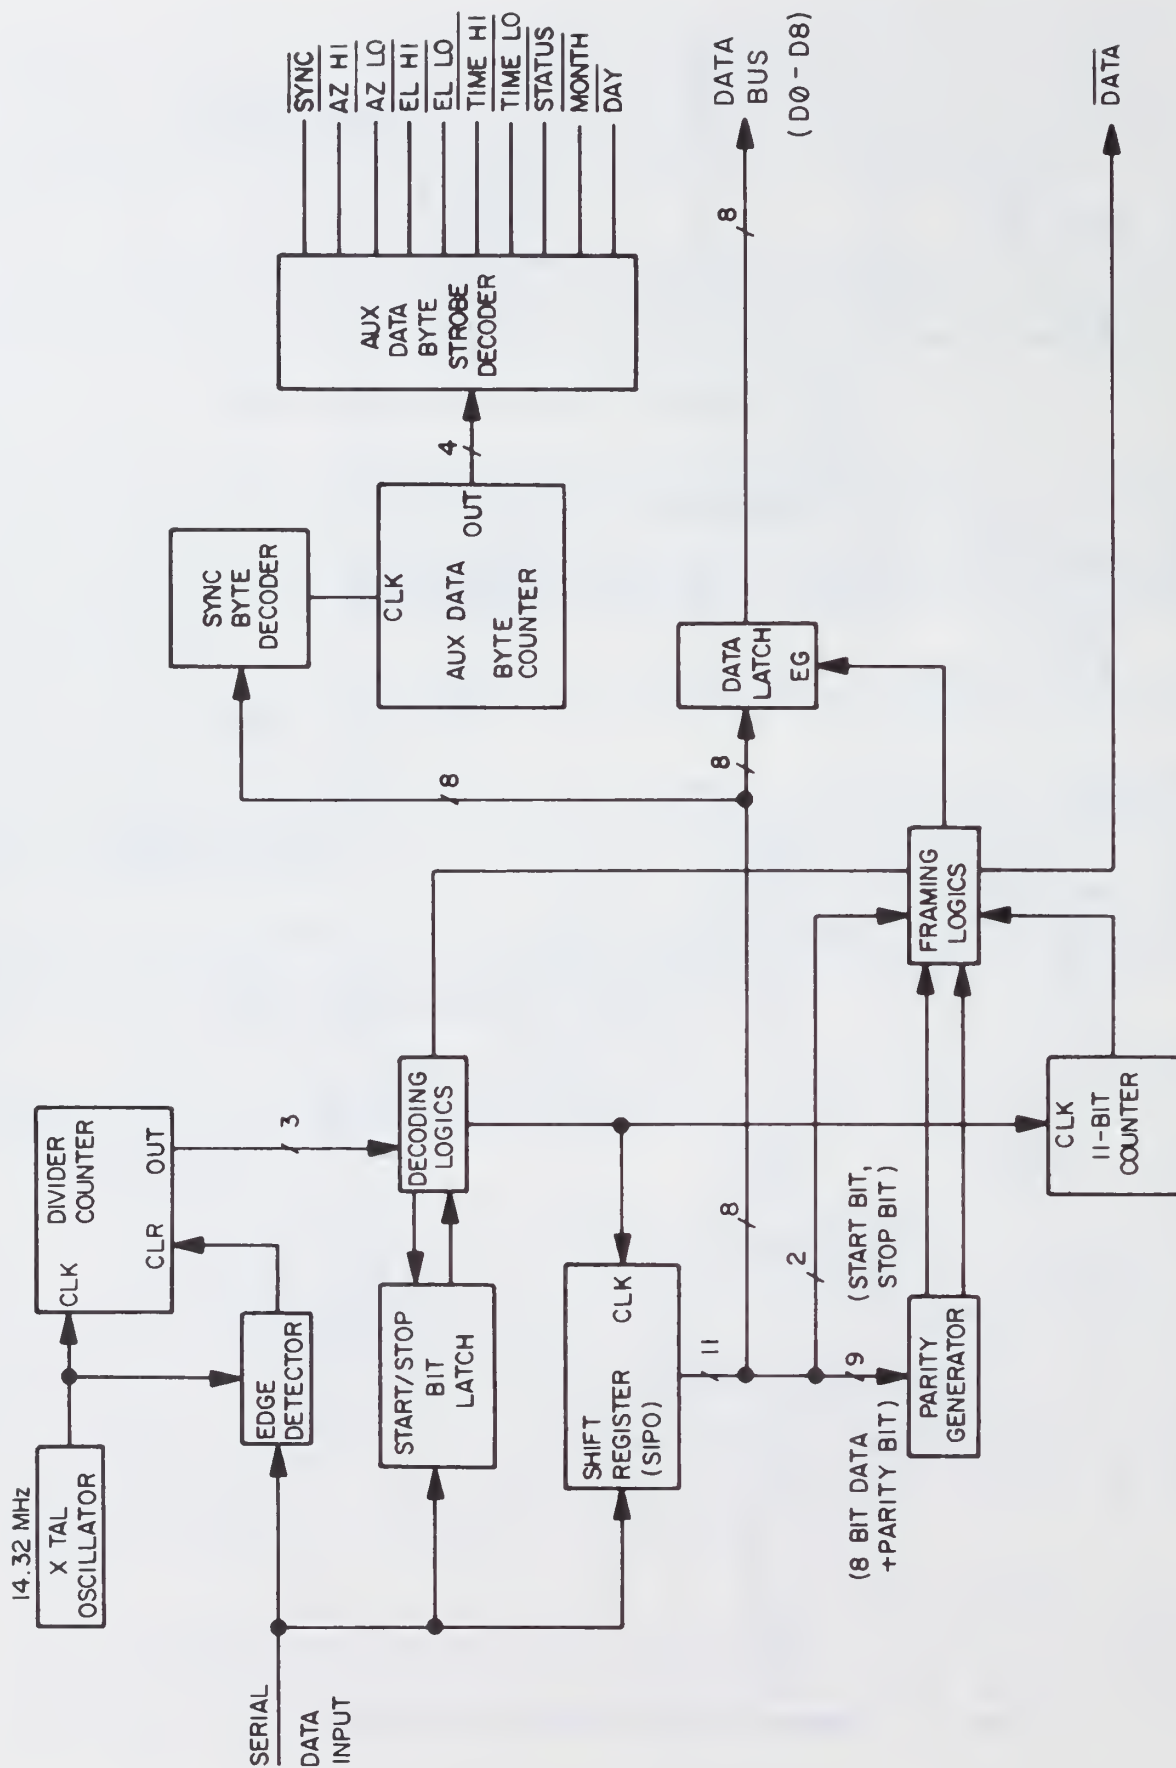

Figure 2-6. DE Receiver CCA N1A2A6, Block Diagram
### **2.3.7 DE Receiver CCA N1A2A6 Functioning. (See figure 2-6)**
**2.3.7.1** Figure 2-6 shows a block diagram of the IDE serial receiver CCA. The main purpose of this board is to test/monitor the serial data by reconstructing and displaying on LEDs and oscilloscope. The receiver is an asynchronous system operated at 14.31818 MHz (8 times the input data rate). Synchronization with incoming data depends upon the detection of level transitions and the correct framing of data bits (valid start bit, parity bit, 8-bit data, and stop bit). This is accomplished by the edge detecting circuit, the parity generator, and the framing logics. The divider counter and decoding circuit are used to generate strobe signals at the center of each data bit time to ensure noise free data latch. An 11-bit counter keeps track of the number of bits shifted into the serial-in-parallel-out (SIPO) shift registers, thus checking the framing of a data field (11 bits). When a correct framing of data field is recognized, the 8-bit data will be latched into the data latch. At the same time a DATA strobe will be generated to enable the data latch at the clock display board.